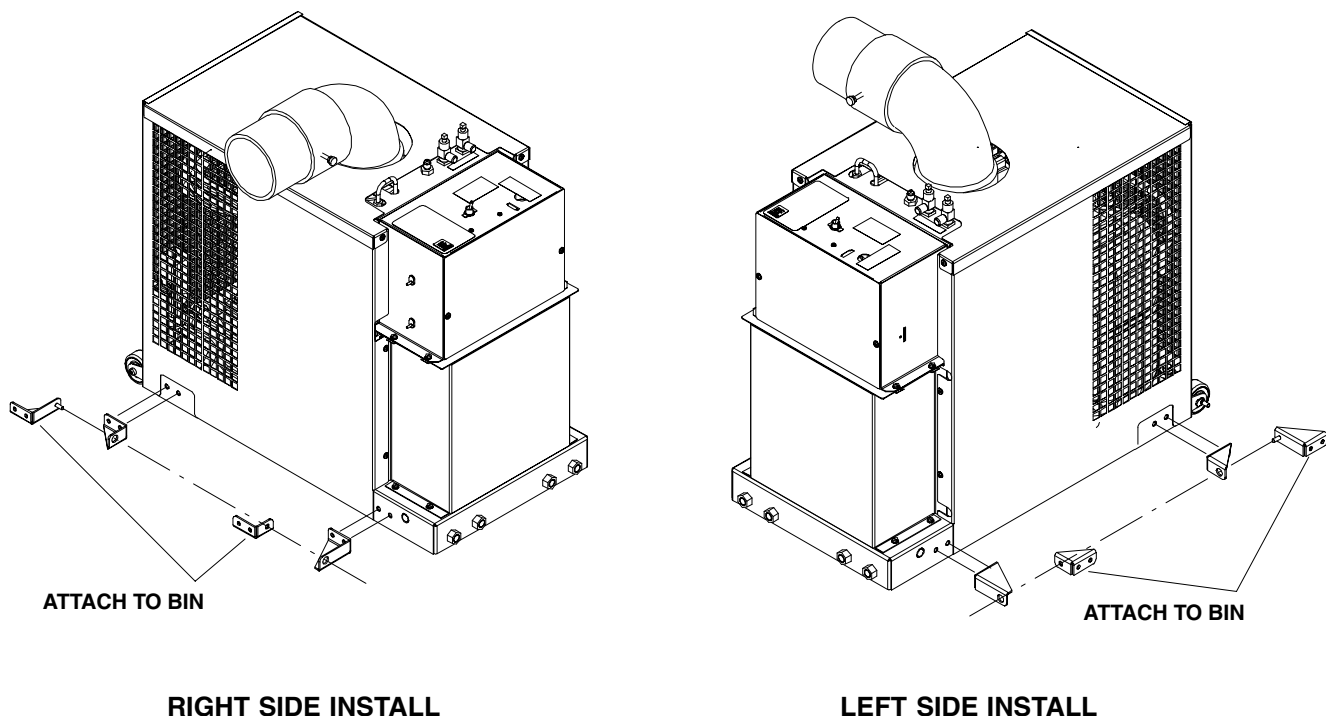

FIGURE 2. SIDE BRACKET INSTALLATION
- B. Install the icemaker alignment brackets (*Supplied with icemaker*) to the dispenser (See Figure 2).
- A. Install the icemaker alignment brackets (*Supplied with icemaker*) to the icemaker (See Figure 2).